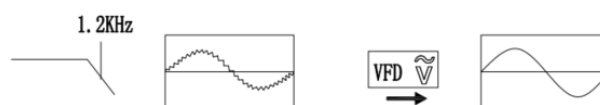

Figure 6
- 4) In the AC voltage range, the VFD low-pass filter function can be selected by pressing SELECT to measure the composite sinusoidal signal generated by the inverter and inverter motor, as shown below (Figure 6).